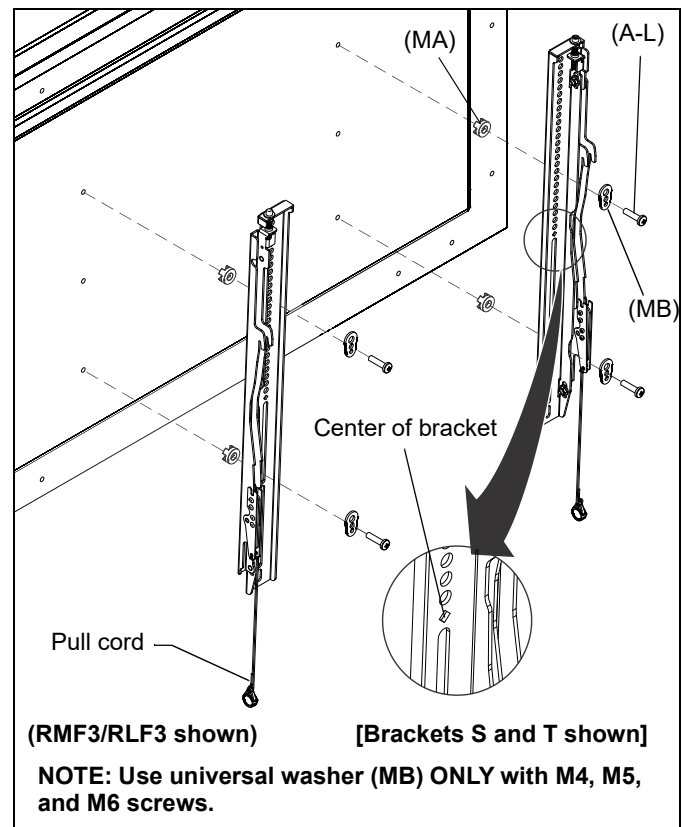
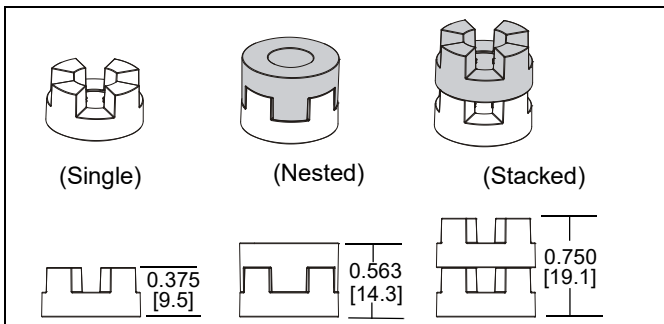

Figure 9
Figure 10
1. Align the center of the bracket (S and T or U and V) with center of screen. (See Figure 9)
2. Select correct screws, nesting spacers (if necessary) and universal washers (if required) from the hardware bag (A-L) and attach brackets to back of screen. (See Figure 9)
**IMPORTANT ! :** The M8 screws do **NOT** require a washer. Use the universal washer (MB) only with M4, M5, and M6 screws.
**NOTE:** The nesting spacers (MA) may be used separately, or put two together in different configurations to create different size spacers. (See Figure 10)